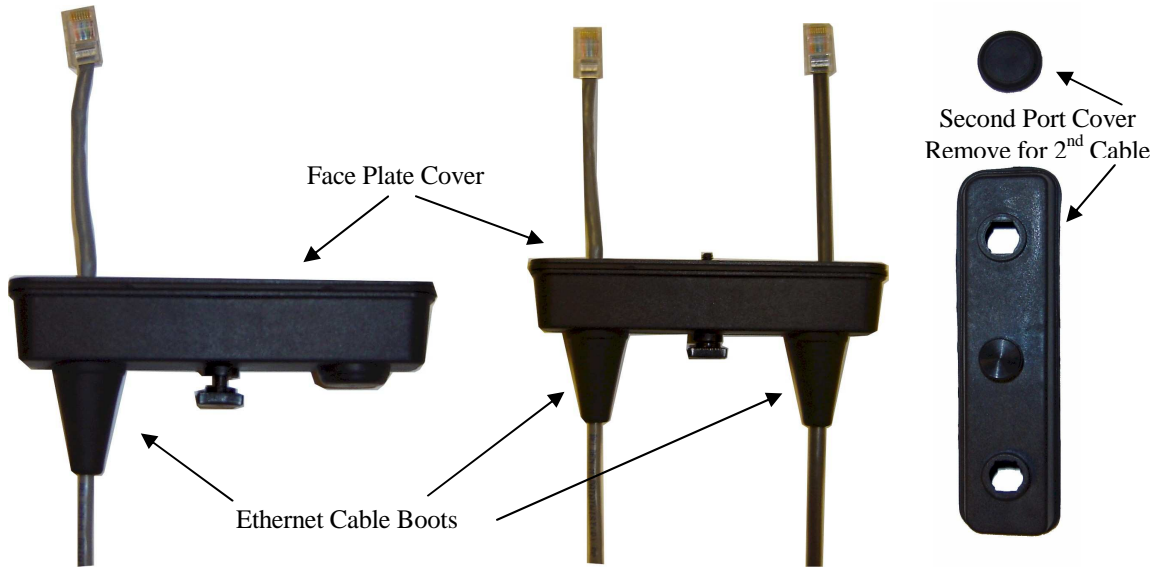

Figure 7: Ethernet Cable Routing
8. Feed the CAT-5e Ethernet connector(s) through the Face Plate Cover and secure the Ethernet Cable Boot to the cover. Reference Figure 7. *NOTE: The Ethernet cable boot must be installed before the RJ-45 end is installed. If using the ESTeem AA09.1 outdoor Ethernet cable, verify that the Ethernet cable boot end is routed toward the ESTeem 195Eg.*